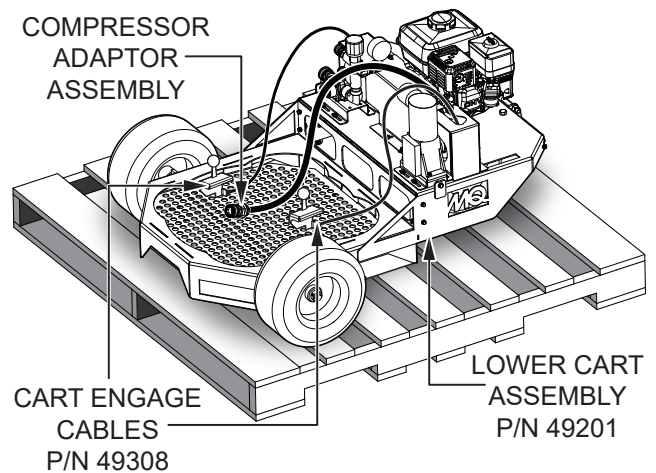

Figure 5. Lower Cart Assembly on Pallet
1. The lower cart assembly (P/N 49201) sits on a pallet (P/N 777367) at the bottom of the main shipping container. Remove all other packages and components from the main shipping container, so that only the lower cart assembly remains on the pallet (Figure 5).
The cart engage cables (P/N 49308) and compressor adaptor assembly components (P/N 49326, P/N 49256, and P/N 49333) ship **attached to the assembly** (Figure 5). Cut the cable ties securing these components to the assembly, but **DO NOT** disconnect or disassemble these components at this time.